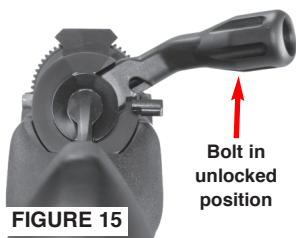

FIGURE 15
- Open the bolt and inspect the rifle's bore for obstructions (and clean if necessary) (FIGURE 15).